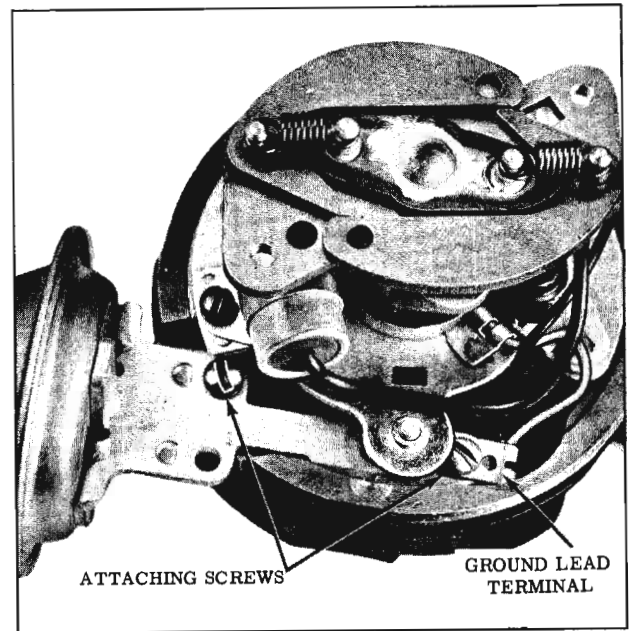

Fig. 14-49 Vacuum Advance Unit
1. Remove the two vacuum advance attaching screws. (Fig. 14-49)
4. Install the attaching screws with the ground lead terminal under the inner mounting screw. (Fig. 14-49)
1. Install the vacuum advance with the ground lead terminal under the inner mounting screw. (Fig. 14-49)